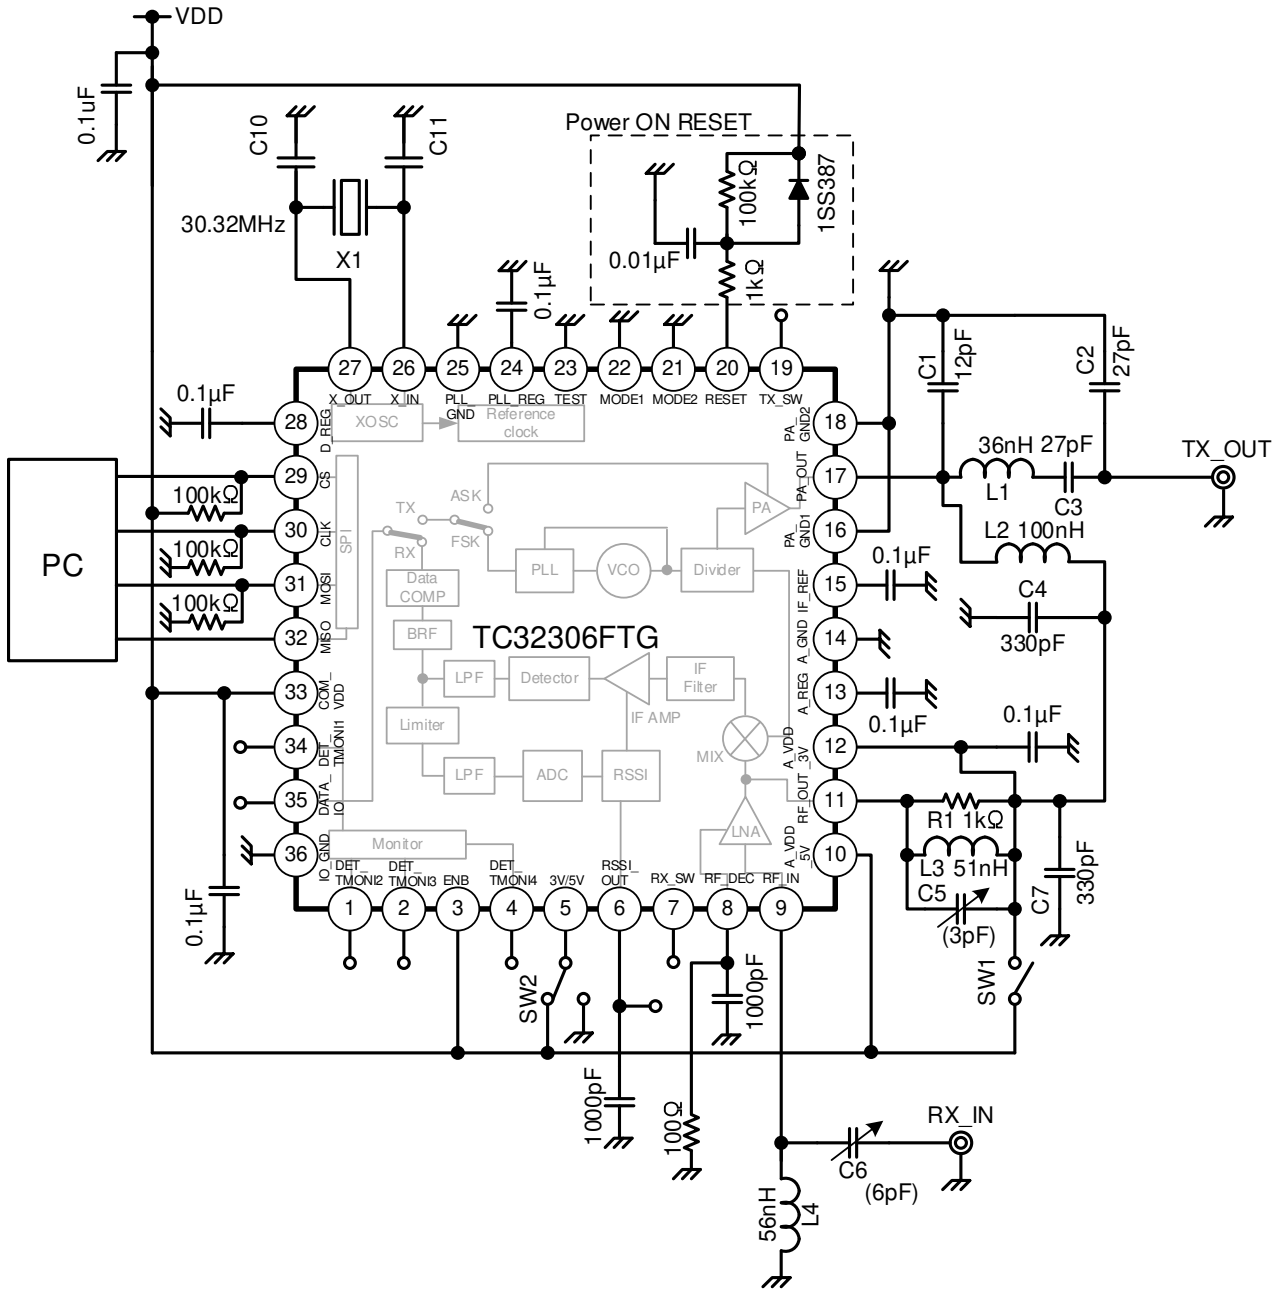
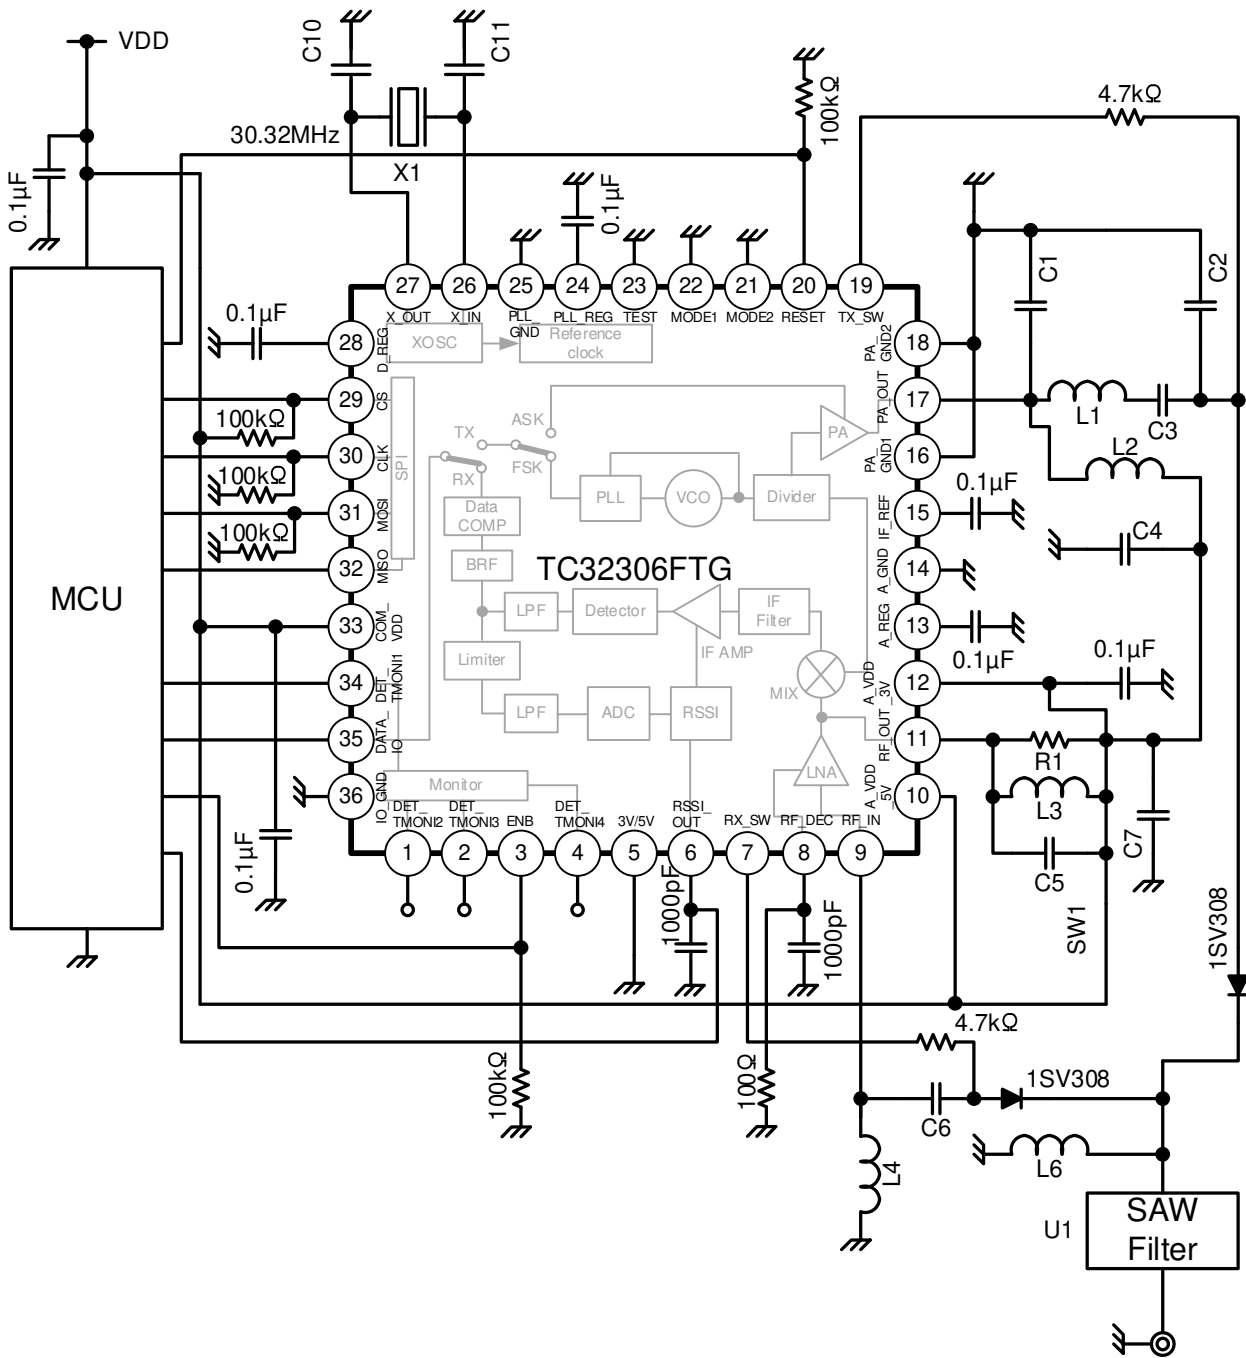
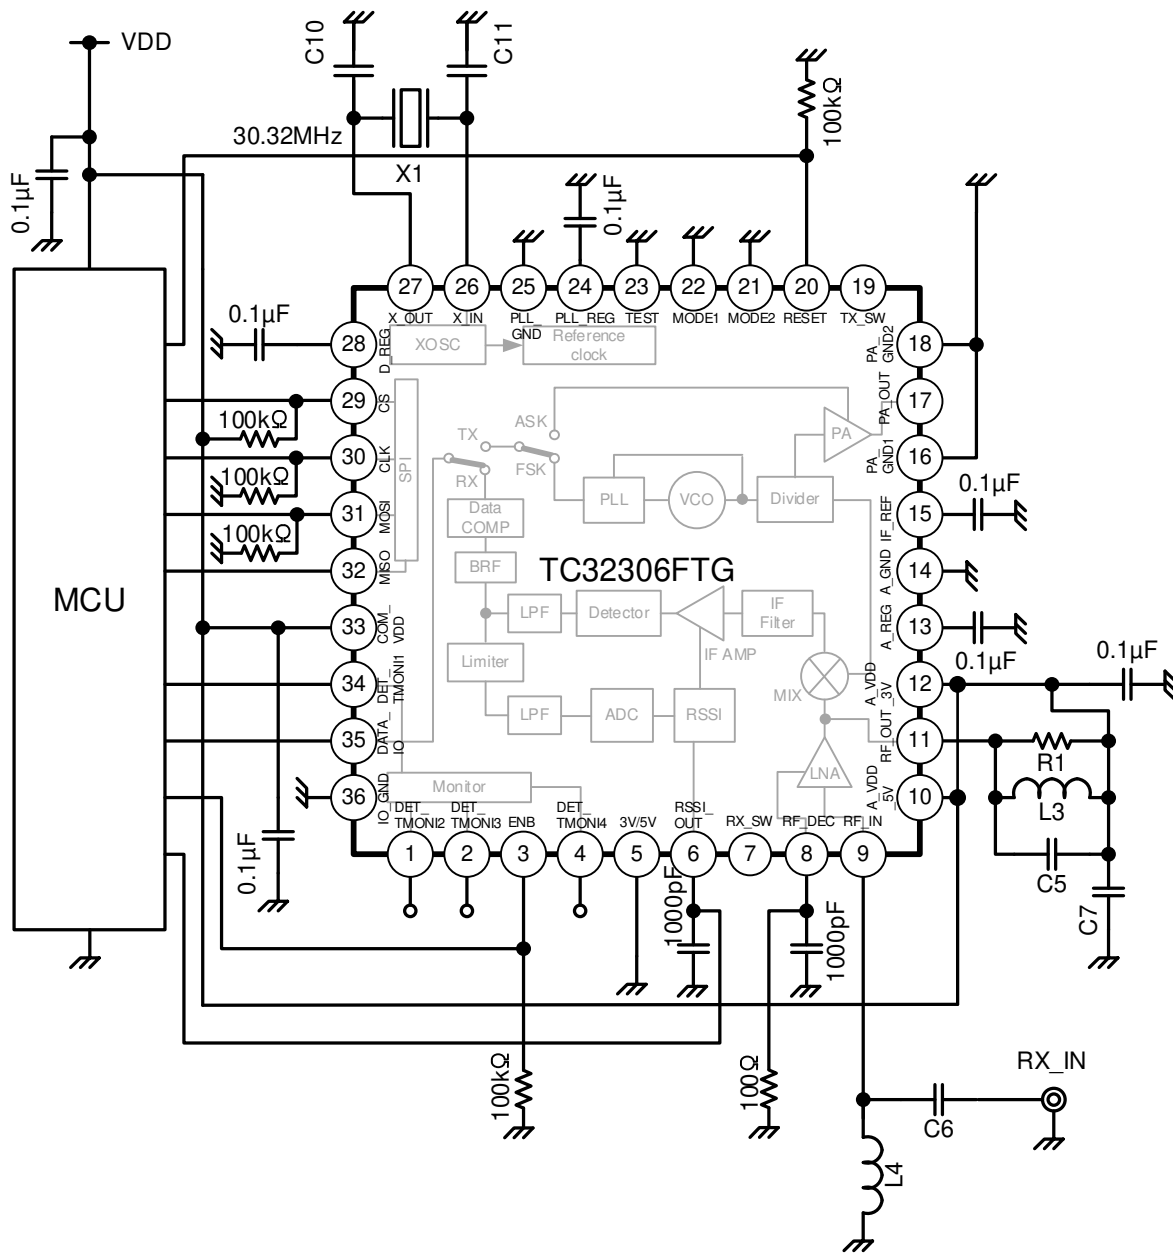
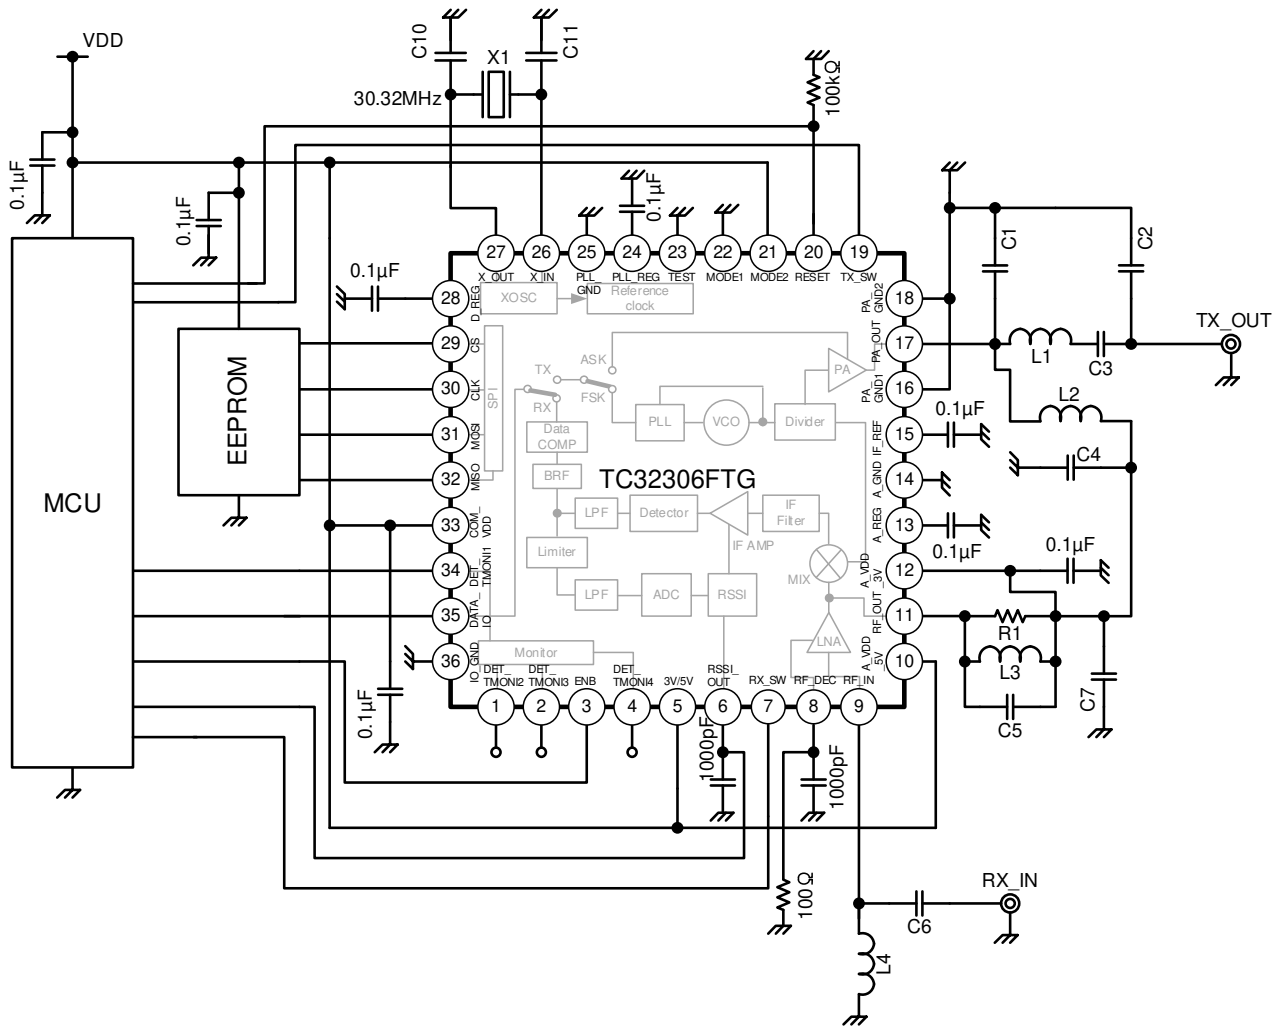

Fig 13-1 Example of Evaluation Circuit
Fig 13-2 Example of Application Circuit 1
Fig 13-3 Example of Application Circuit 2
Fig 13-4 Example of Application Circuit 3
Fig 13-1 is an example of Toshiba's evaluation circuit.
Fig 13-2 is an example of application circuit controlled by MCU. (Bidirectional communication / 3V Use)
- Fig 13-2 is SPI Mode and external MCU I/O is connected to SPI control pins of TC32306FTG,
- Fig 13-2 is 3V Use. For 5V Use, change the voltage supply connections by referring Fig 13-1.
Fig 13-3 is an example of application circuit controlled by MCU. (For receiving only / 3V Use)
- Fig 13-3 is SPI Mode and external MCU I/O is connected to SPI control pins of TC32306FTG,
- Fig 13-3 is 3V Use. For 5V Use, change the voltage supply connections by referring Fig 13-1.
Fig 13-4 is an example of application circuit controlled by MCU and EEPROM.
- Fig 13-4 is EEPROM Mode and external EEPROM I/O is connected to SPI control pins of TC32306FTG,
- Fig 13-4 is 5V Use. For 3V Use, change the voltage supply connections by referring Fig 13-1.
- Fig 13-5 is 5V Use. For 3V Use, change the voltage supply connections by referring Fig 13-1.